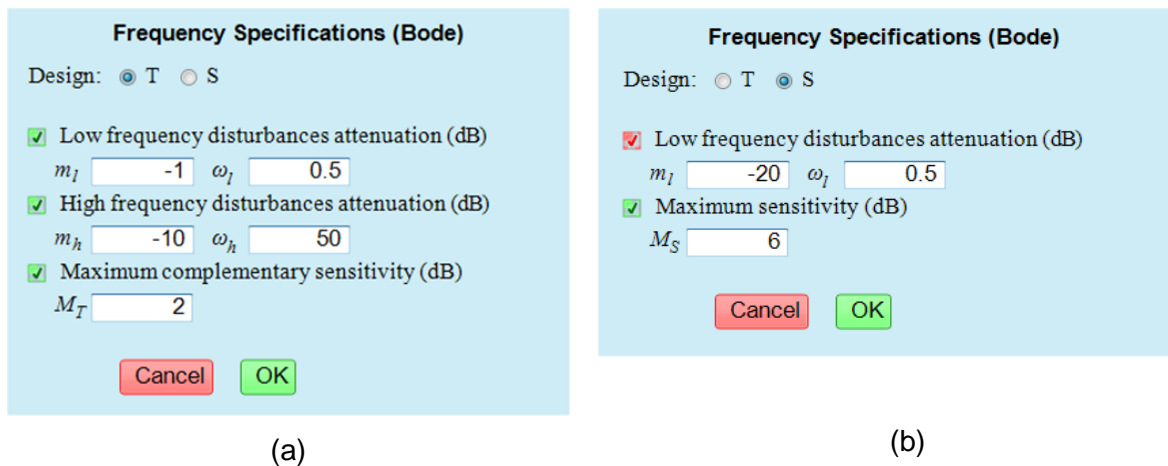

Figure 26. Text fields to configure the enabled frequency specifications to design a) $T(s)$ or b) $S(s)$.
1. Click on the button *Frequency specifications*. When the user executes this action, an auxiliary window (see Figure 26) is show on the screen.